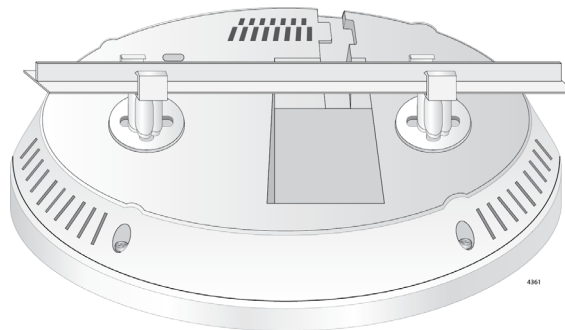

Figure 28. Attaching the Access Point to the Ceiling T-rail
6. Align the rail clips on the access point to the ceiling T-rail and apply force to attach the access point to the rail, as shown in Figure 28.